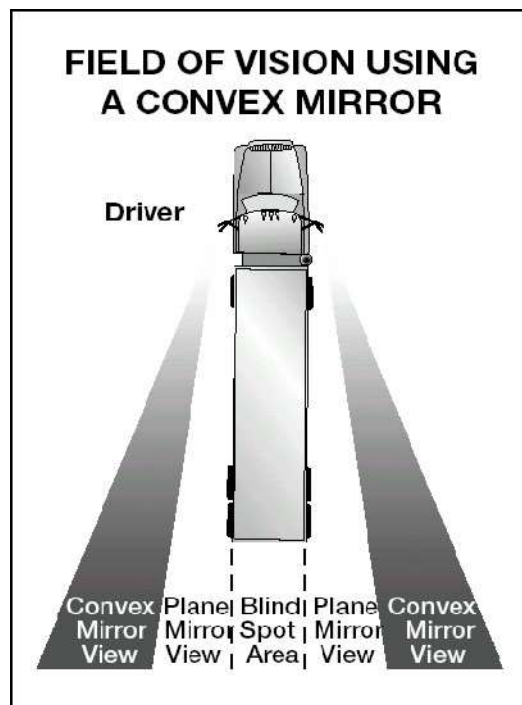

Figure 2.7
- Many large vehicles have curved (convex, "fisheye," "spot," "bugeye") mirrors that show a wider area than flat mirrors. This is often helpful. But everything appears smaller in a convex mirror than it would if you were looking at it directly. Things also seem farther away than they really are. It's important to realize this and to allow for it. **Figure 2.7** shows the field of vision using a convex mirror.